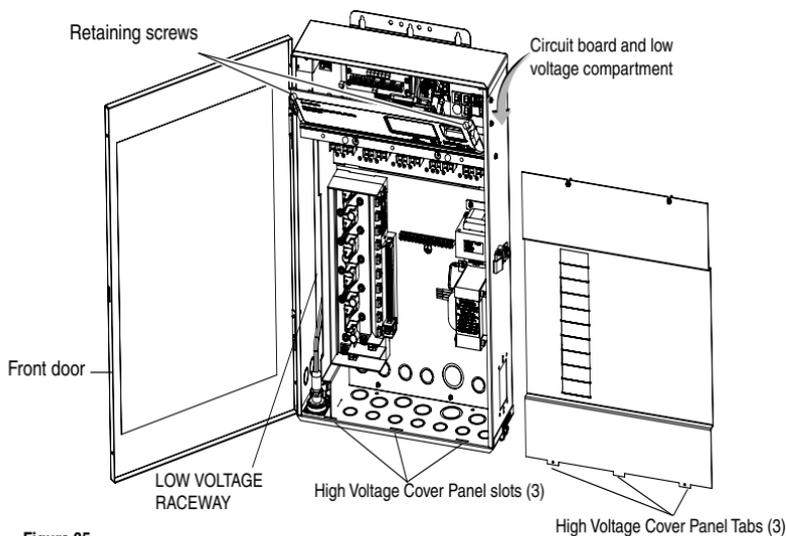

Figure 35
2. Unlatch the front door latch and open the front door. Remove the two retaining screws from the High Voltage Cover Panel and remove the panel. See **Figure 35**.
- Secure the panel with the two (2) retaining screws. Close the front door and secure with the latch. See Figure 35 on page 34.